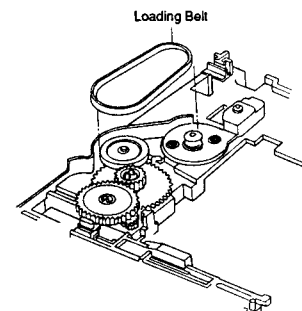

Figure 32
- (1) Remove the Loading Belt as shown in Figure 32.